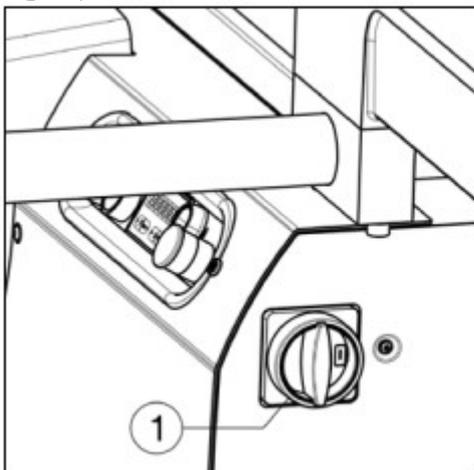

Fig 4
- connect the 3 phases to the terminals marked L1, L2, L3 (fig 4);
## Starting up the machine (fig 4 – 5 -6 – 7)